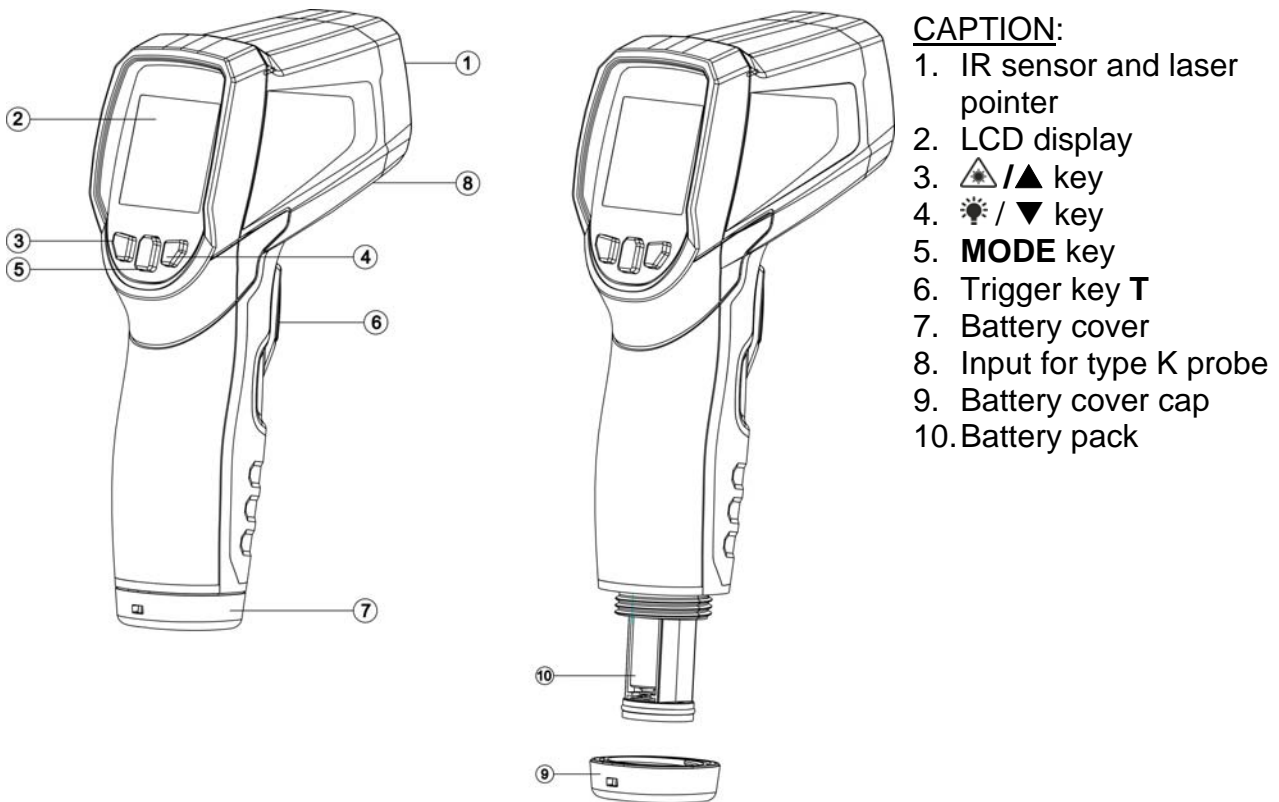
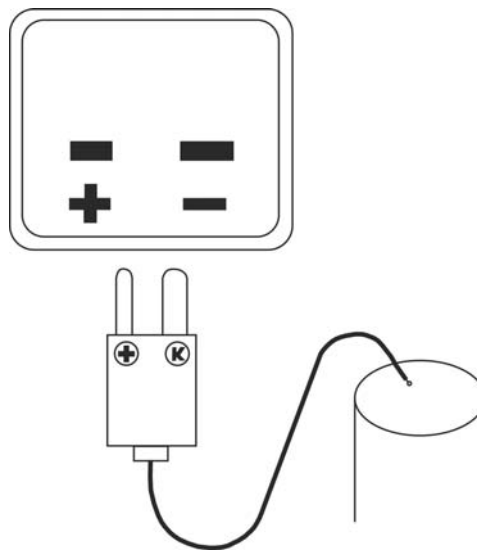

Fig. 1: Description of the instrument's parts
Fig. 5: Connection of K-type probe in the instrument
The Trigger key **T** (see Fig. 1 – part 6) allows the following operations:
1. Open the protection cap of K-type input terminal (see Fig. 1 – part 8) and connect the K-type probe respecting the indicated polarities (see Fig. 5)
1. Unscrew the battery cover cap (see Fig. 1 – part 9) and extract the battery pack (see Fig. 1 – part 10)